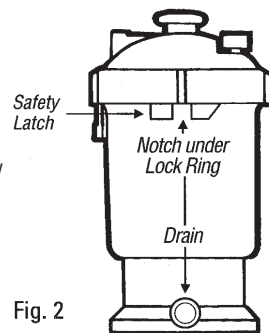

Fig. 2
3. Place Easy-Lok lid evenly on filter body and turn clockwise until the notch on the locking ring engages securely to the safety latch directly over the drain. (See fig. 2)